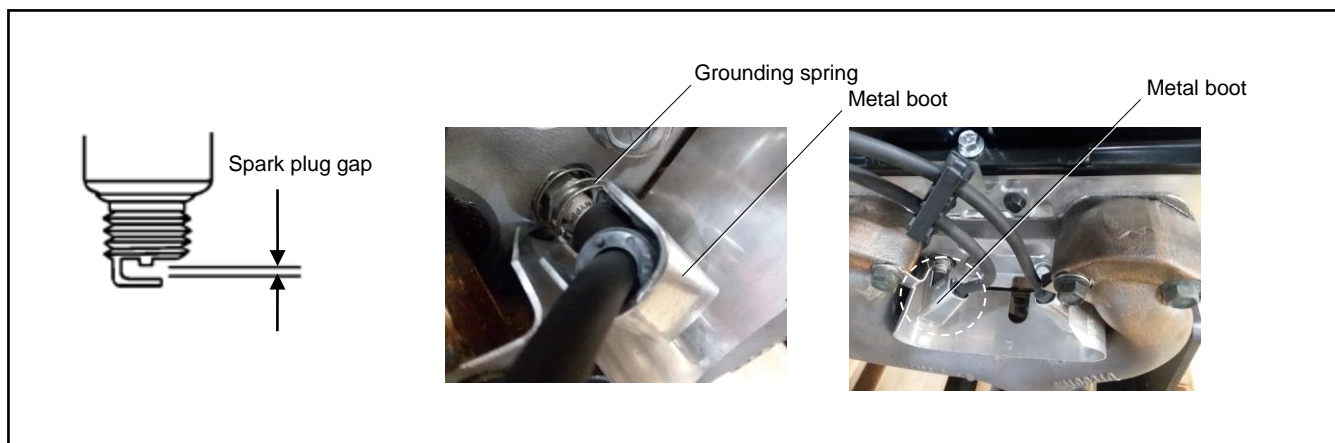

Figure 29 Spark Plug Gap
7. Use a spark plug gap tool to measure the gap on each spark plug. Adjust the gap to specification. See Figure 29.
10. Insert the grounding spring over the spark plug. See Figure 29.